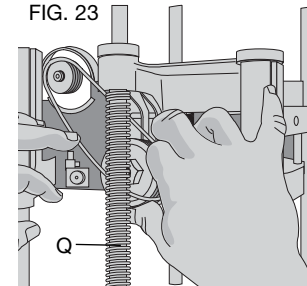

FIG. 24
8. Continue pressure on the side of the belt and rotate the large pulley while hopping the belt further onto the pulleys, as shown in Figure 24.